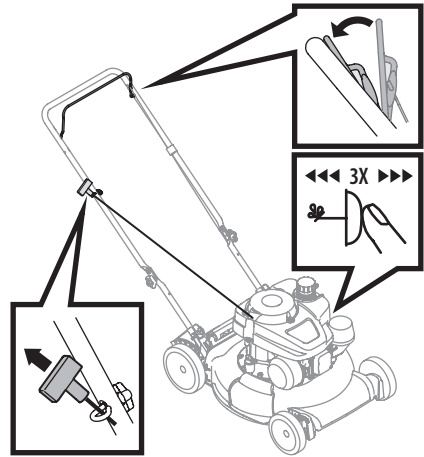

Figure 7
1. Push primer 3 times. Wait about two seconds between each push (Figure 7). In temperatures below 50°F, prime 5 times. After the engine is warmed up, one prime may be needed for all temperatures.
3. Pull the recoil starter handle lightly until resistance is felt, then pull rapidly to overcome compression, prevent kickback, and start the engine (Figure 7). Repeat if necessary.